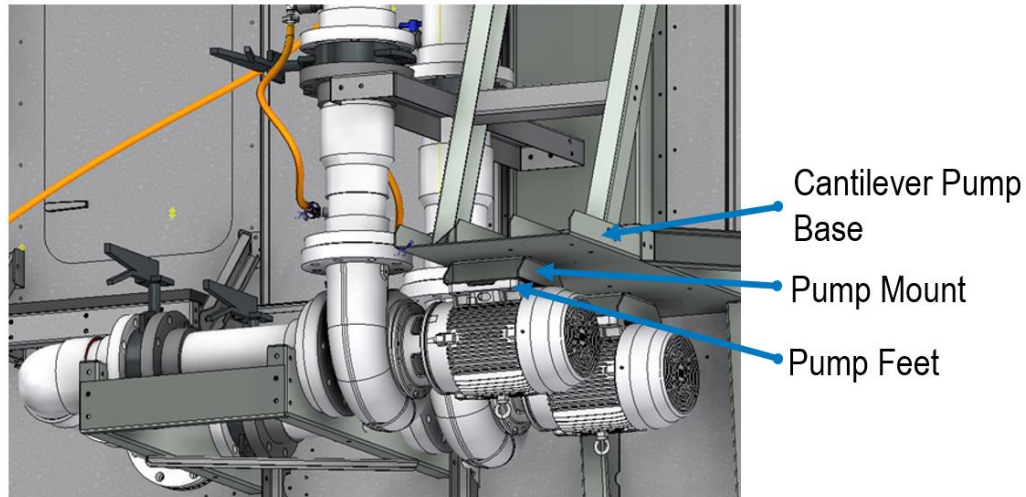

Figure 18. Pump Mounting
5. Loosen and remove 3/8" hardware that fastens the pump mount to the cantilever pump base or remove the 3/8" hardware that fastens the pump feet to the pump mount. See **Figure 18**.
1. Attach 3/8" hardware that fastens the pump mount to the cantilever pump base or attach the 3/8" hardware that fastens the pump feet to the pump mount. See **Figure 18**.